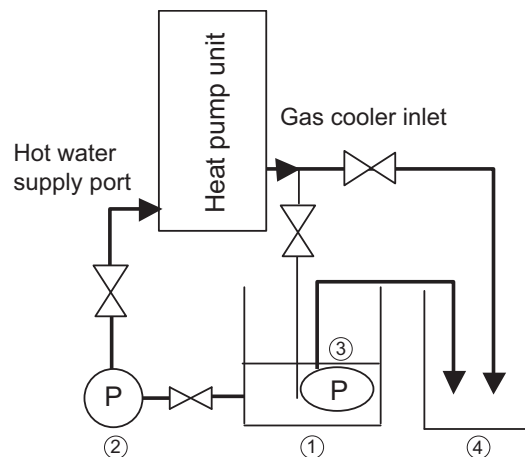

Figure 4 Exhaust water circuit
Connect the container to collect used cleaning water as shown in Figure 4.
Exhaust water drainage route (See Figure 4.): (①→②→Heat pump unit→④)
Order in which submersible pump is to be used (See Figure 4.): (③→④)